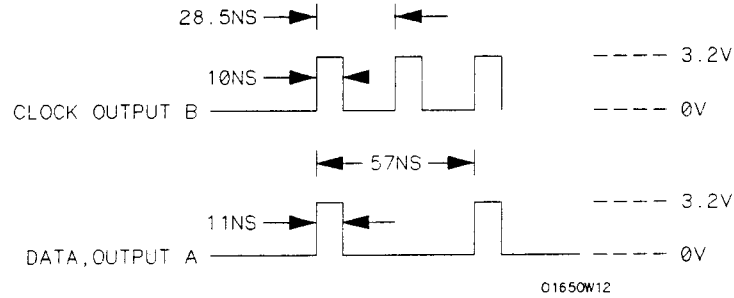

Figure 3-17. Waveform for Data Test 3
- Adjust the pulse generator for the outputs in figure 3-17.